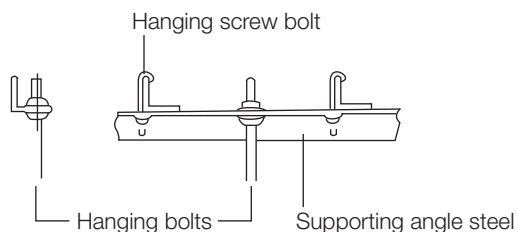

Fig. 4.9
Install and use the supporting steel angle. (See Fig. 4.9)
8. Mount the indoor unit onto the hanging screw bolts with a block. Position the indoor unit flat using a level indicator to prevent leaks. (See Fig. 4.9)